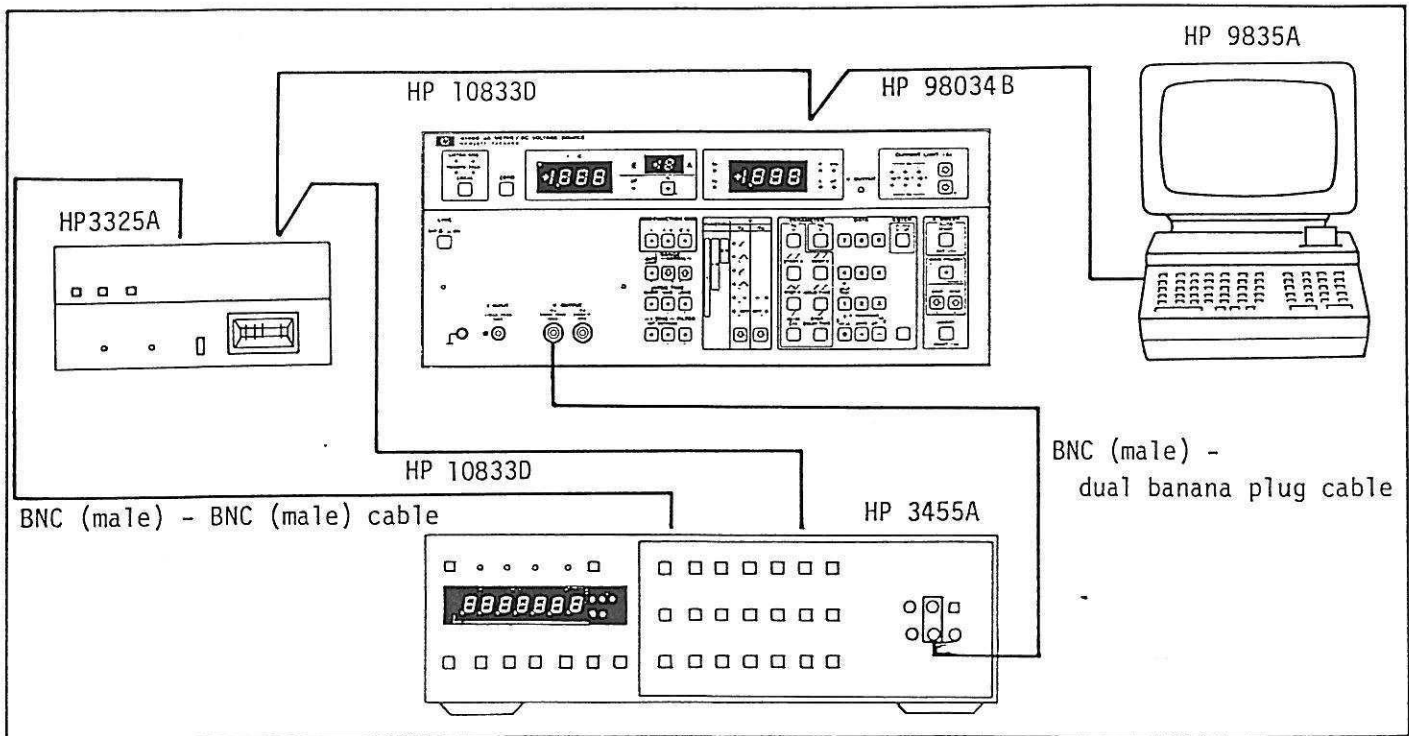

Figure 5-7. VS (Voltage Source) Ramp Rate Adjustment Setup.
2. Insert the 98034B HP-IB Interface Card into the 9835A I/O slot, and connect the attached cable to the 4140B rear panel HP-IB connector, as shown in Figure 5-7.
6. Connect 4140B, 3455A, 3325A with 10833D HP-IB cables as shown in Figure 5-7.
7. Connect BNC (male) to BNC (male) cable between 3325A SIGNAL OUTPUT connector and 3455A EXT TRIGGER INPUT connector, as shown in Figure 5-7.